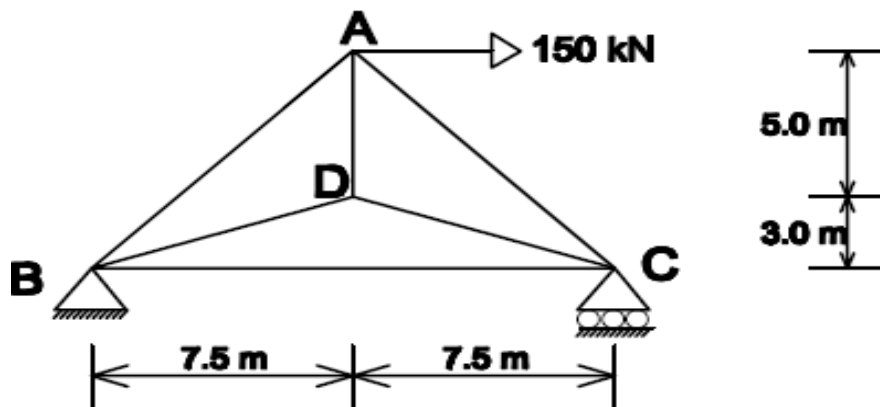

Figure 5
5. Find the forces in the members of the truss using Force method. AE is same for all the members. [Figure.5] [14 M]